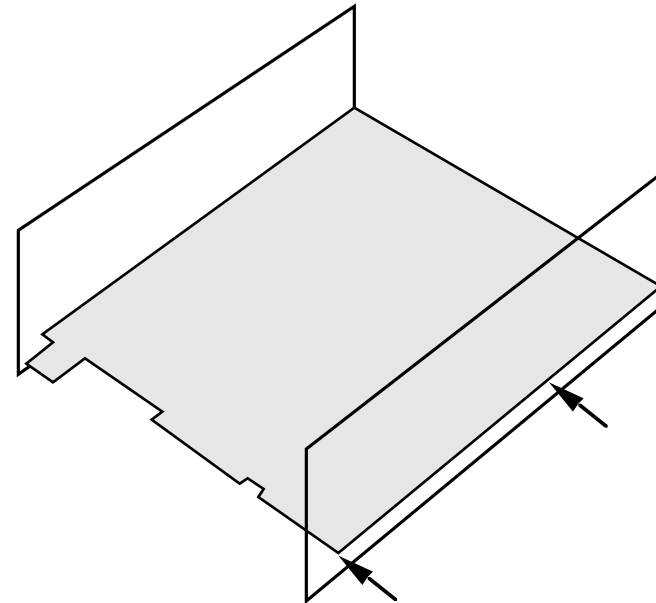

Figure 6-12
□ Attach the side panels to the RF board using two 3/16" (4.8 mm) flat-head screws per side panel. The side panels are attached using the 2-D fasteners that are already in place on the RF board. Figure 6-12 shows the approximate location of the two screws used to secure the right side panel.